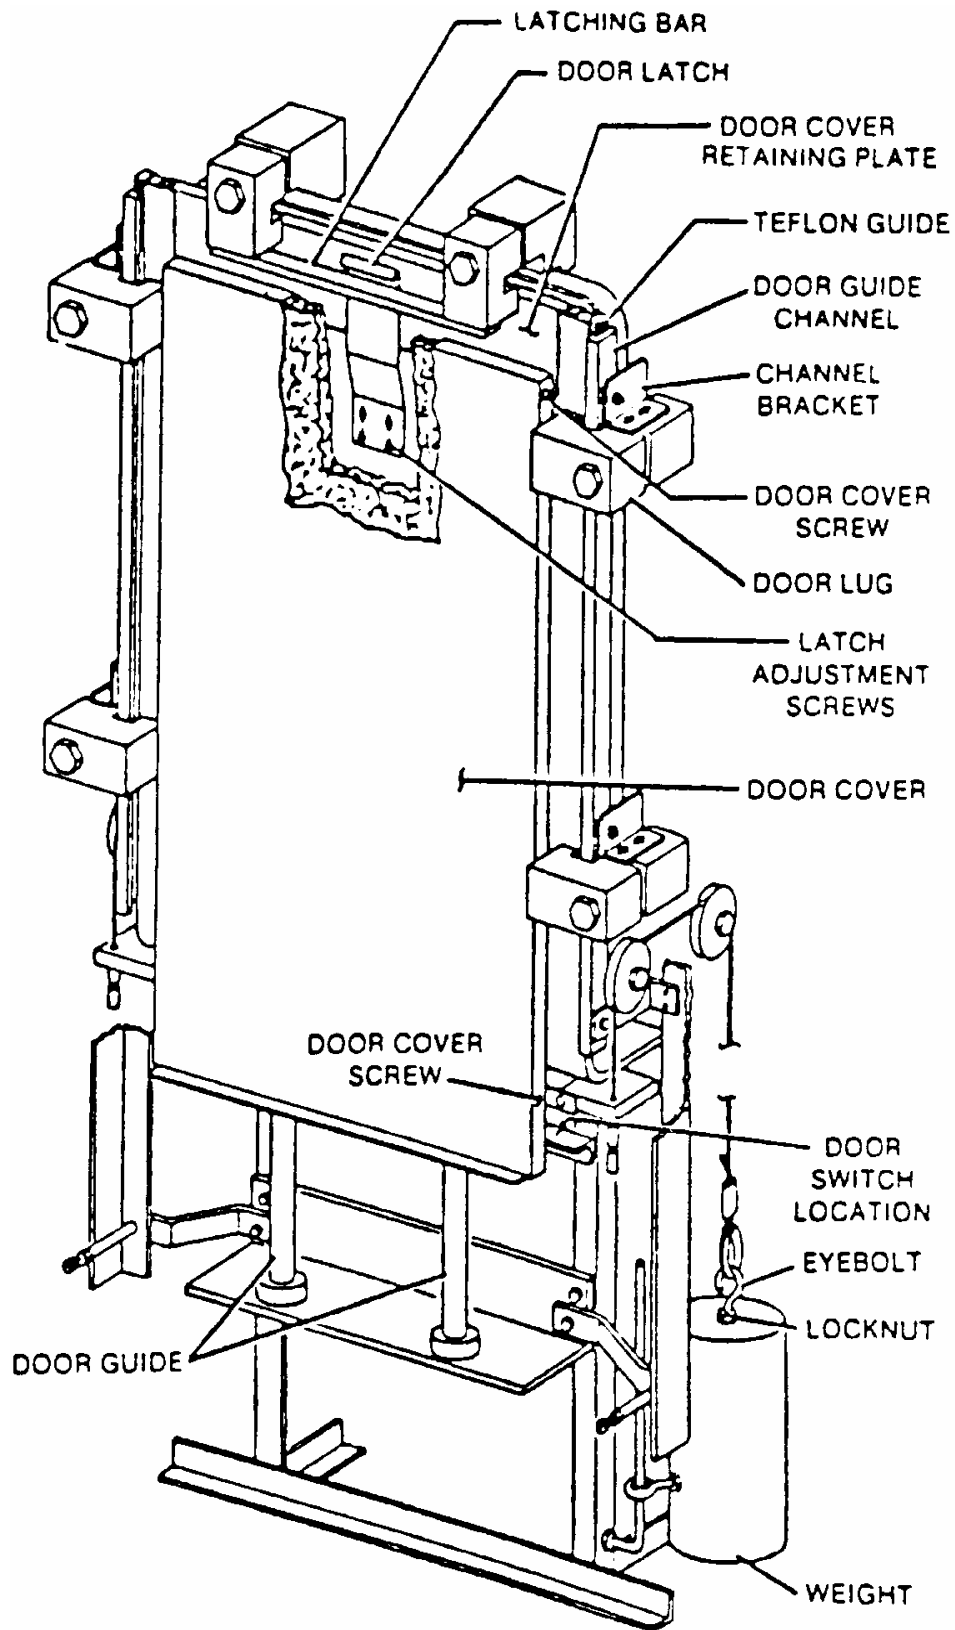

Figure 1-15. Door assembly.
a. **Make Door Adjustments.** If the door is not fully closed, the door will not lock. If this happens, steam could leak and burn you when the unit goes into its cycle. Refer to figure 1-15.
(6) Align the door. Refer to figure 1-15.